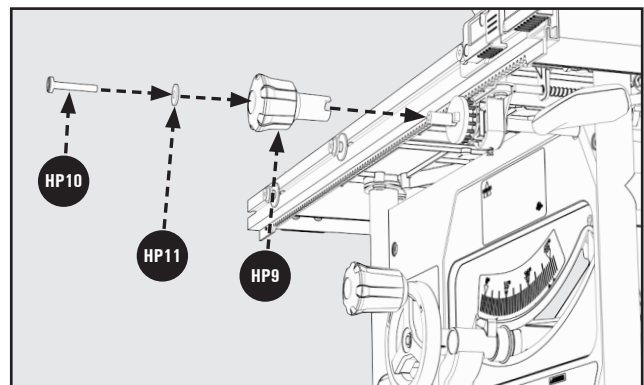

Figure 13
1. Insert and tighten M6 x 25L Hex Socket Round Head Screw (HP10) through Flat Washer (HP11), into Fence Adjustments Knob (HP9) as shown in Figure 13. Make sure the groove in the knob aligns with the rib on the pinion.